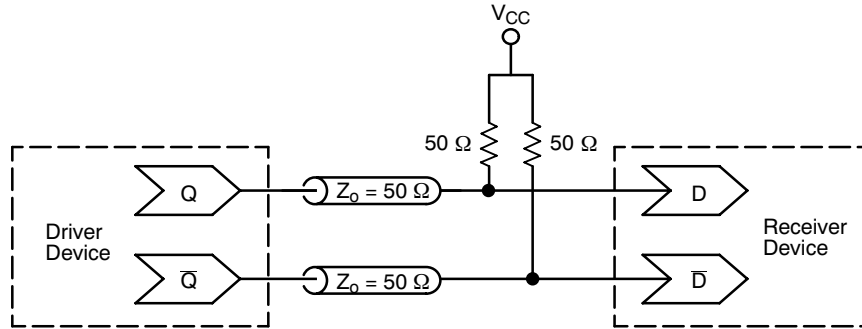

Figure 14. Typical Termination for Output Driver and Device Evaluation
4. CML outputs require $50\ \Omega$ receiver termination resistors to V_{CC} for proper operation. See Figure 14.